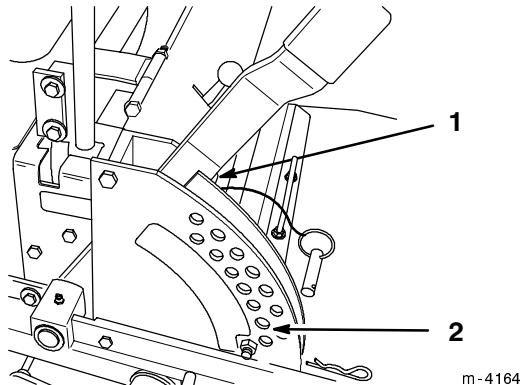

Figure 49
2. Check tire pressure of all four (4) tires. If needed, adjust to 13 psi (90 kPa)
4. Raise the deck to the transport position and take all force off of the two large deck lift springs by loosening nut in front of each spring (Fig. 49).
5. Place two 1-1/2" (38 mm) thick blocks under rear left and right lower edge of mower. Place one 2-1/4" (57 mm) block under front center lower edge of mower. Lower mower to the 2" (51 mm) height-of-cut position (Fig. 49).
1. Raise deck lift lever to the transport position, (Fig. 49).